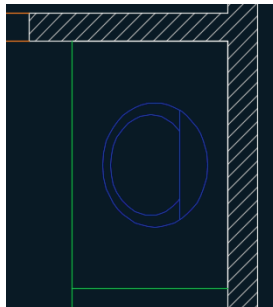

FIGURE 2.5 Directing navigation by positioning the cursor over the bathroom sink while zooming
11. To see everything that has been drawn, you can use the Extents option of the ZOOM command or, better yet, use this special shortcut: double-click the mouse wheel. Position the cursor over the bathroom sink, and roll the mouse wheel forward to zoom in. Notice that the view stays centered on the sink without your having to pan (see Figure 2.5). Drag the mouse wheel to make slight panning adjustments if necessary to center the target object on the screen.